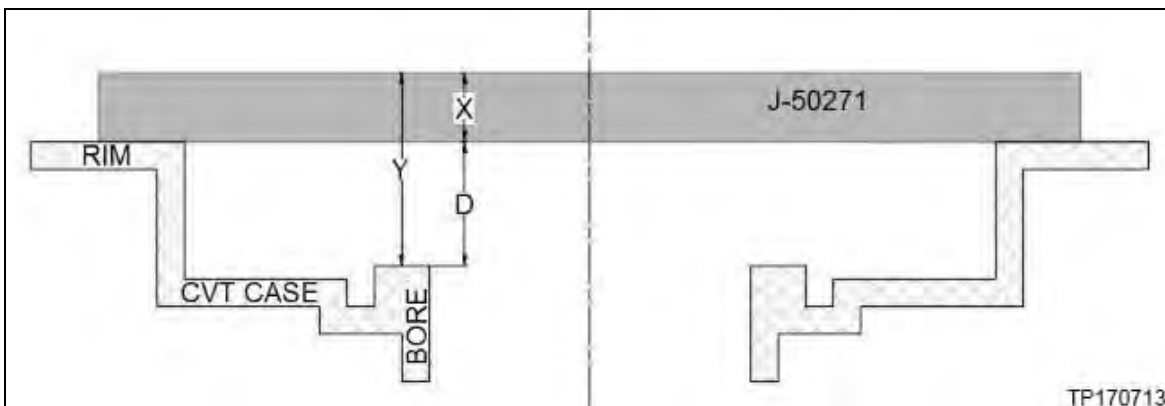

Figure 5M
NOTE: Only if a Gauge Block (J-50271) is not available, measurement “X” (Figure 5M, page 54) will need to be determined for the measuring bar being used. This can be done either with a set of calipers or with Digital Depth Gauge (J-50272).
8. Measure the average distance (Y) shown in Figure 5M as follows: